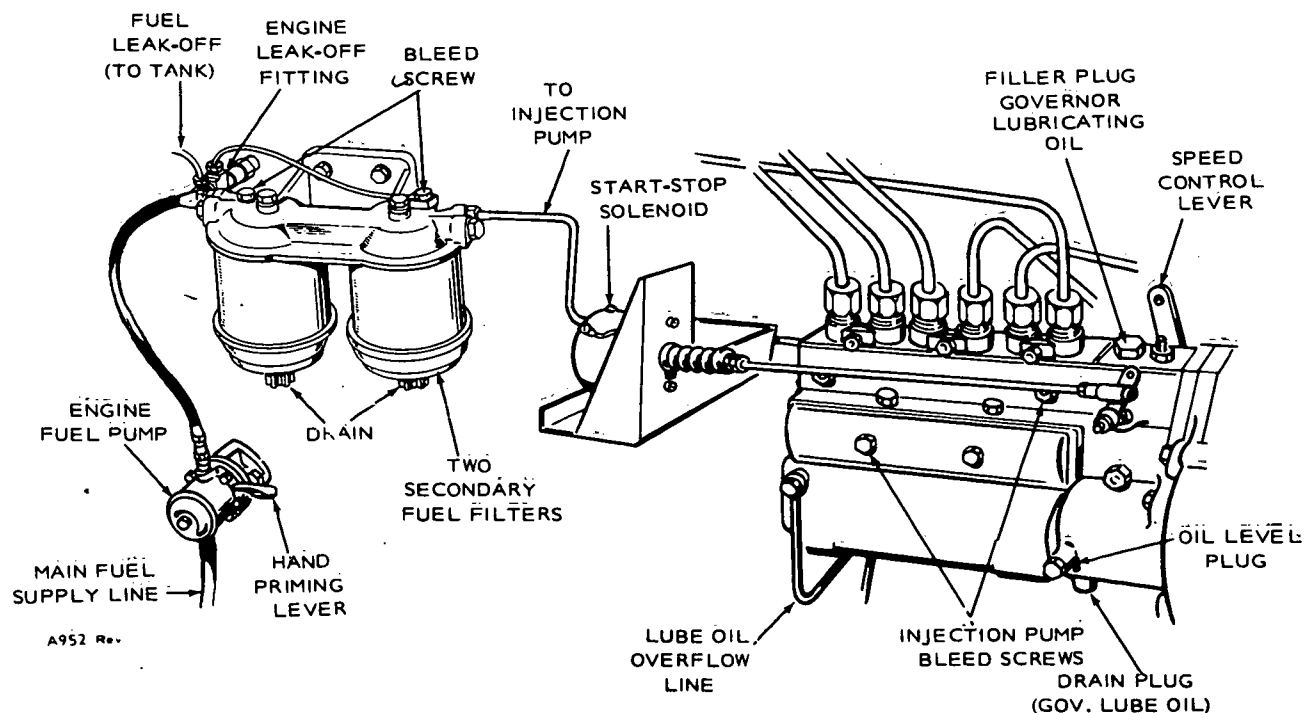

FIGURE 13. FUEL SYSTEM
The fuel inlet is to the transfer pump and is threaded for 3/8-inch pipe. Injectors' return line requires a 1/8-inch low pressure hose connection. Refer to Figure 13.
2. Actuate priming lever on the side of the fuel transfer pump (Figure 13) until fuel flows from filter bleed screw without showing air bubbles.